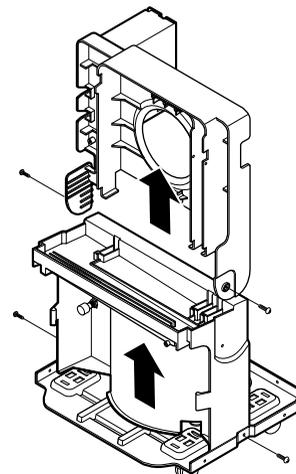

Figure 24
5. Unfasten 2 screws that secure the drain pan to base pan. (See Figure 24)
6. Pull the drain pan backward then take it up from the base. (See Figure 24)